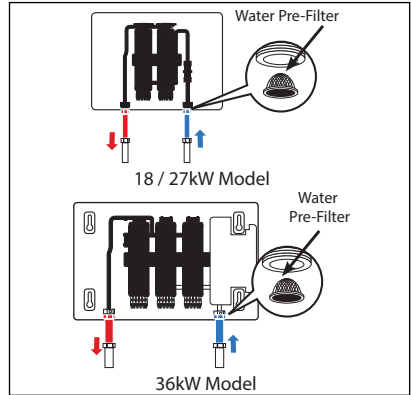

Figure 4 - Inlet Pre-Filter
- Connect the water inlet line to the entry point of the heater (right side inlet), and connect the outlet line to the water outlet. Use a line that can withstand a minimum pressure of 116 psi (8 bar). Using any other type of line will cause damage. All water pipes within three (3) feet of the unit's water inlet and outlet must be rated for high temperature applications of 150°F (66°C) minimum.
- It is recommended to use flexible water lines. See Figure 4.